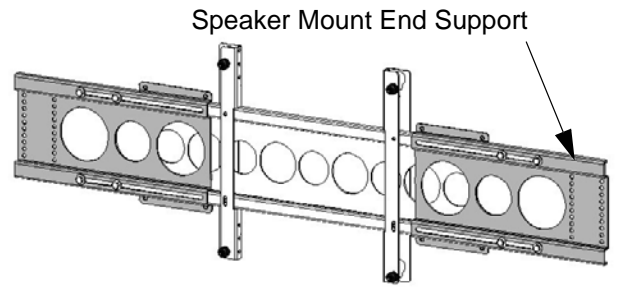
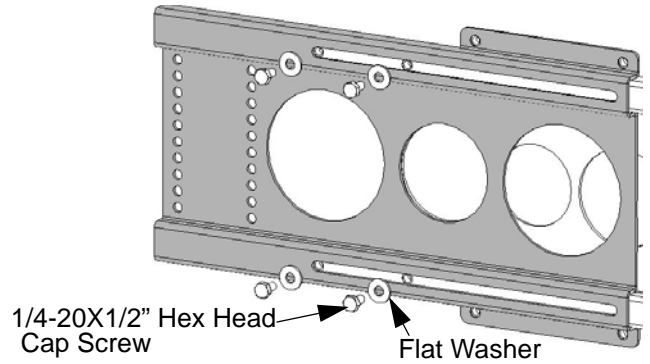

Figure 5. Speaker Mount End Supports
Figure 6. Speaker Mount End Support Attachment
- 3. Install the speaker mount end supports (40) on the speaker mount cross support (10) and secure each speaker mount end support using four flat washers (140) and four 1/4-20X1/2" hex head cap screws (150) (see Figure 5 and Figure 6).